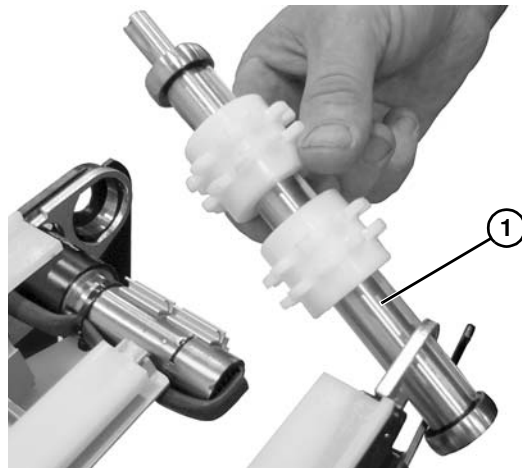

Figure 69
11. Remove spindle (**Figure 69, item 1**).